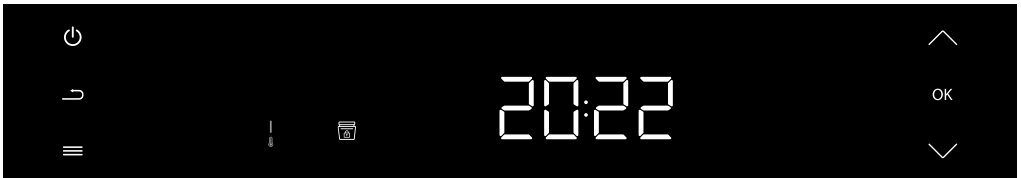

Figure 40
**WARNING:** When pyrolytic cleaning is finished, the oven door remains locked until the temperature inside the oven has dropped to a safe level. The display is as shown in the figure below. (see figure 40)